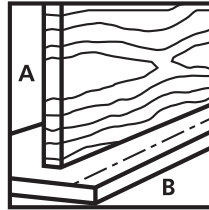

Figure 11
1. Align two boards in the finish position and mark them "A" and "B". Mark a line on board B for the centre points of the dowels. See Figure 11.